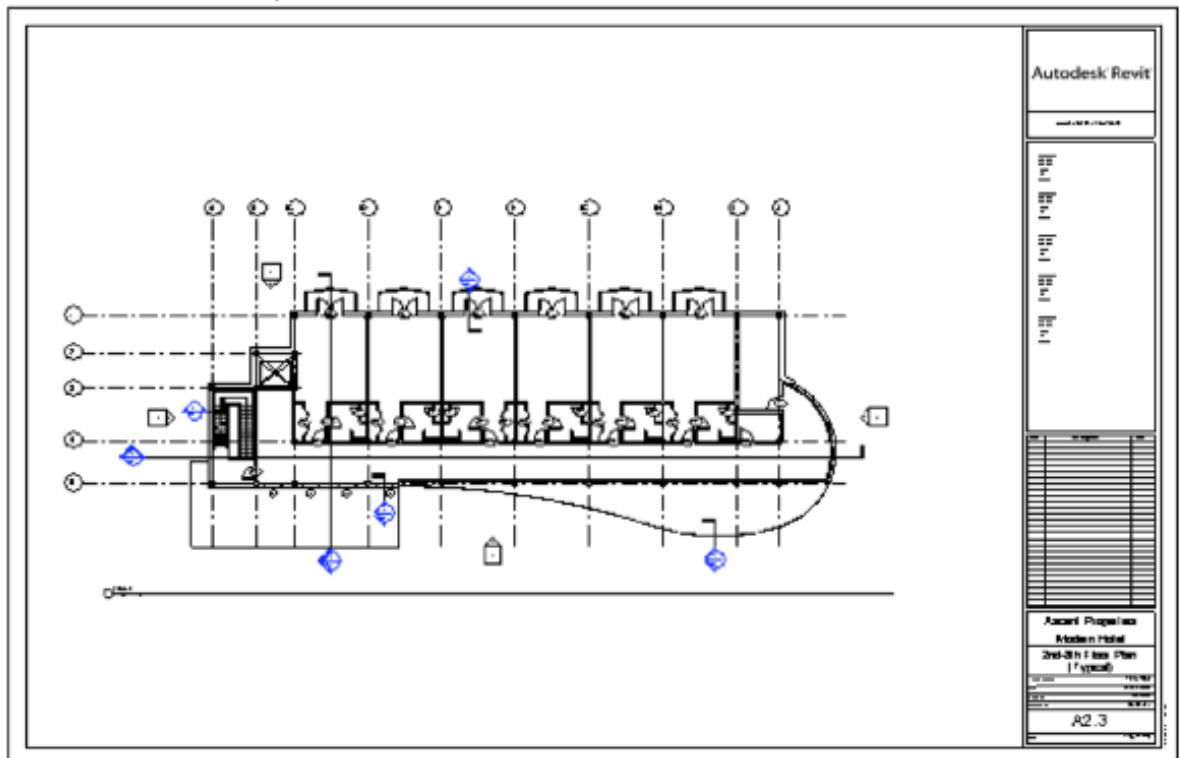

Figure 1–54
8. View several of the sheets. Some have views already applied, (e.g., **A2.3 - 2nd-8th Floor Plan (Typical)**) as shown in Figure 1–54).